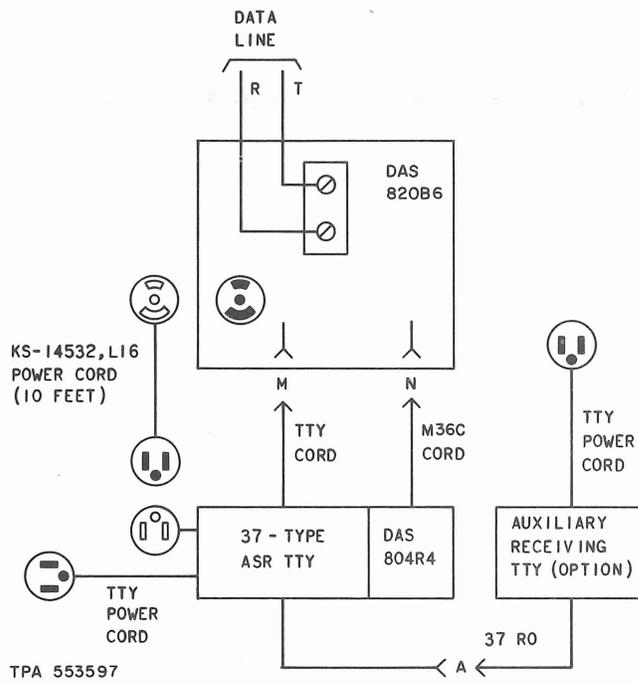
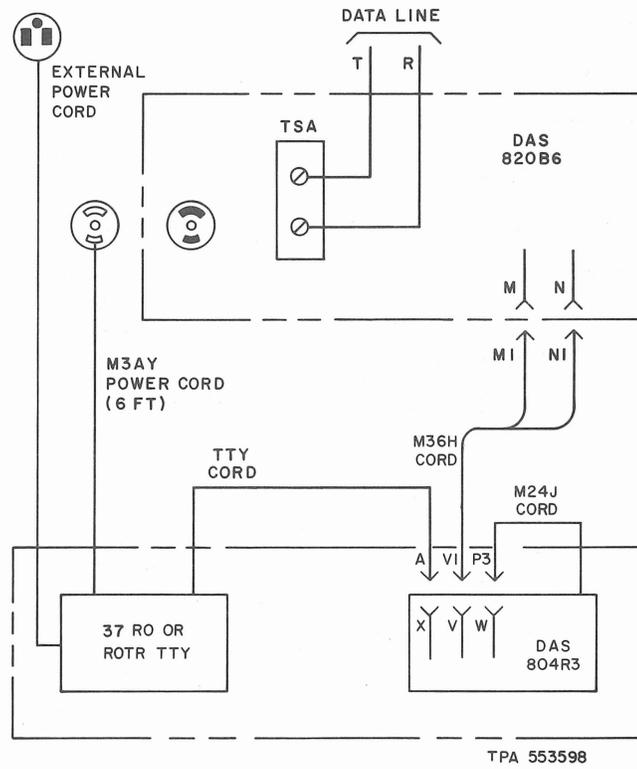

Fig. 4—Interconnection of 37-Type ORIG/TERM Stations
Fig. 5—Interconnection of 37-Type TERM ONLY Stations
**3.01** The interconnection of the 37-type TTY station is shown in Fig. 4 and 5. The figures are shown for a primary station (with or without auxiliary TTY). Figure 4 illustrates an originate terminate station and Fig. 5 illustrates terminate only station.